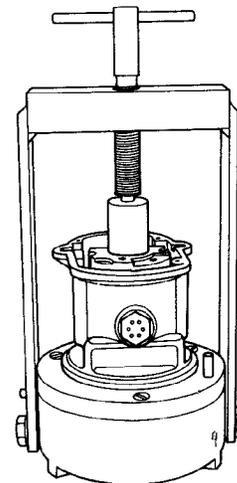

Figure 7.2
- C. Insert the rotor and frame assembly plug (T-102) into the T-100 fixture T-handle. (See Figure 7.2.)